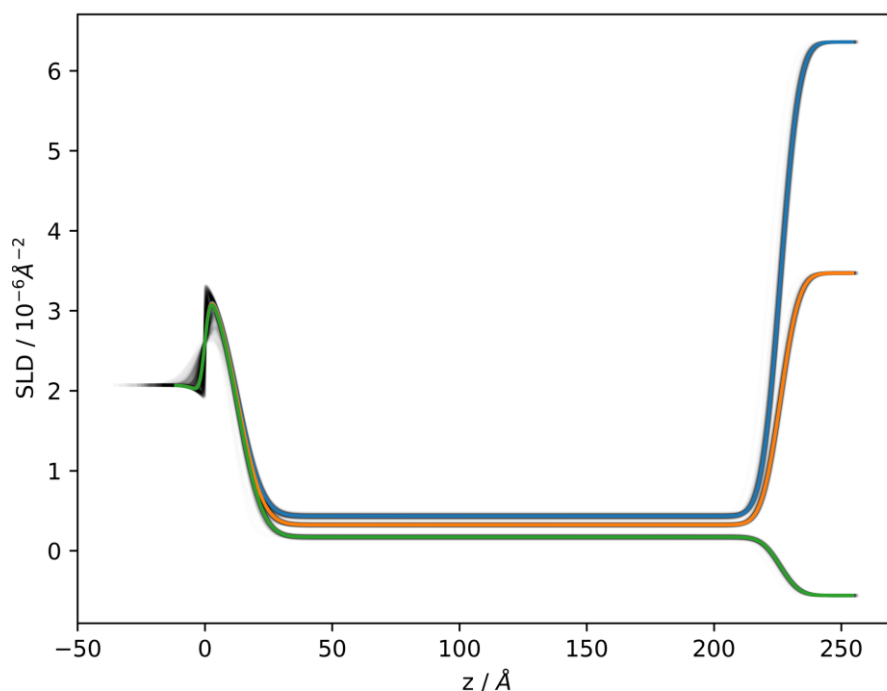

Figure 17 Spread of structural profiles for the three co-refined datasets.
- steps.png* and *steps_sld.png* show the reflectivity and SLD curves for the data, curves corresponding to the median of the MCMC samples, and plots for a certain number of the samples. This gives an impression of the spread of fits and spread of structures consistent with the data. See Figure 17 for the spread of SLD profiles. There you can see that the main uncertainty in the SLD profiles concerns the native SiO₂ layer. The slight dip when transitioning from Si to SiO₂ indicates that the Si/SiO₂ and SiO₂/polymer roughnesses might be too high compared to the SiO₂ thickness. Given that the fit isn't overly sensitive to the Si/SiO₂ and SiO₂/polymer roughnesses it might be reasonable to fix the roughness values at a reasonable value (3 Å?).